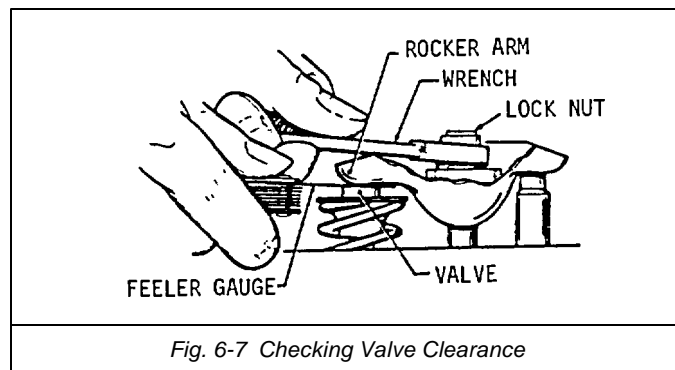

Fig. 6-7 Checking Valve Clearance
- (d) Check valve clearance with a feeler gauge between the rocker arm and the valve (Fig. 6-7) Increase or reduce the clearance until the proper gap is established. Correct valve